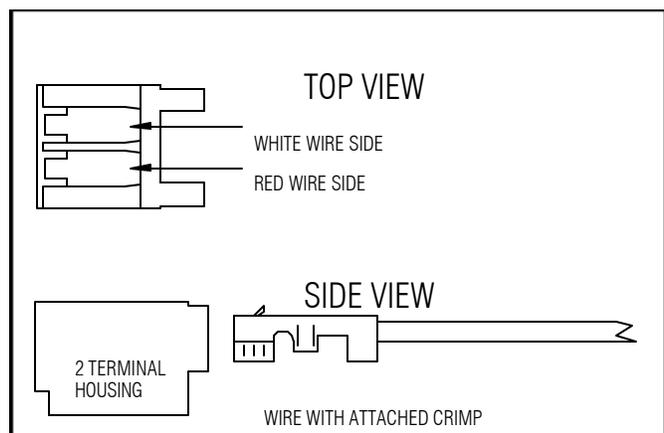

Figure 11 Audio wire housing detail.
- ___ 8. Locate the small white terminal housing and insert the two crimp terminals on the ends of the wires into it as shown in Figure 11. Study the figure to make sure you understand the alignment of the terminal to the housing in regard to the little barb on the top of the terminal. The terminals should go in until the little barb on the top of the terminal clicks into place.